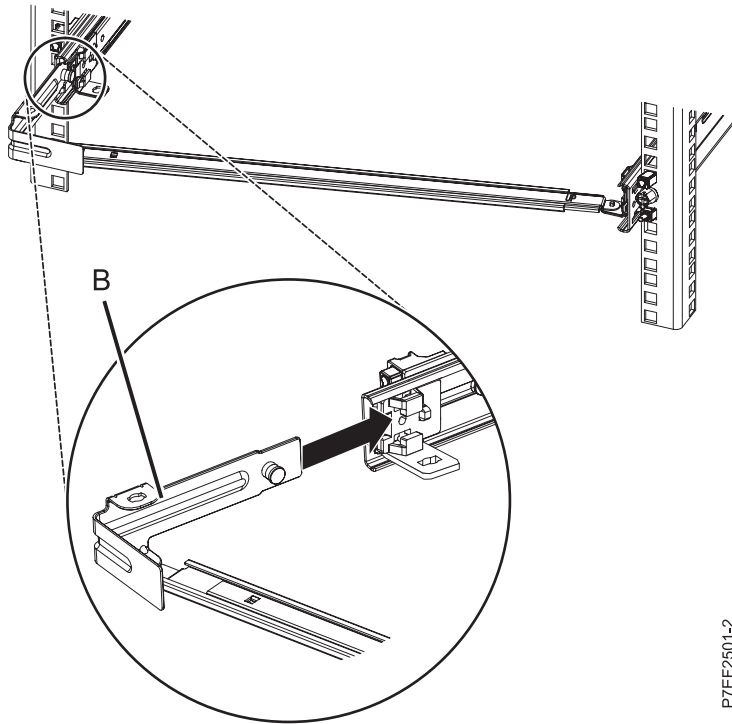

Figure 12. Extending the pin, and installing the bracket into the slide rail
4. Attach the mounting bracket (C) to the slot on the inside of the right slide by sliding the mounting bracket (C) into the slide rail until the spring-loaded pin snaps into place. For details, see Figure 12 on page 9